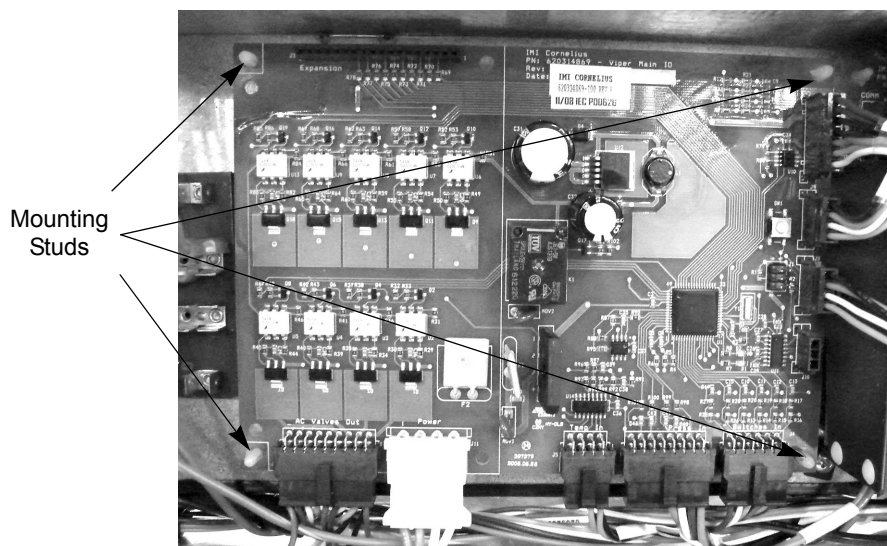

Figure 55. View of Control Board in E-Box
The control board is located in the E-Box. It is mounted to the panel on four (4) plastic mounting studs, shown in Figure 55.
The motor board is located in the E-Box, to the right of the control board. It is mounted to the panel on three (3) plastic mounting studs and a threaded stand-off, shown in Figure 55.